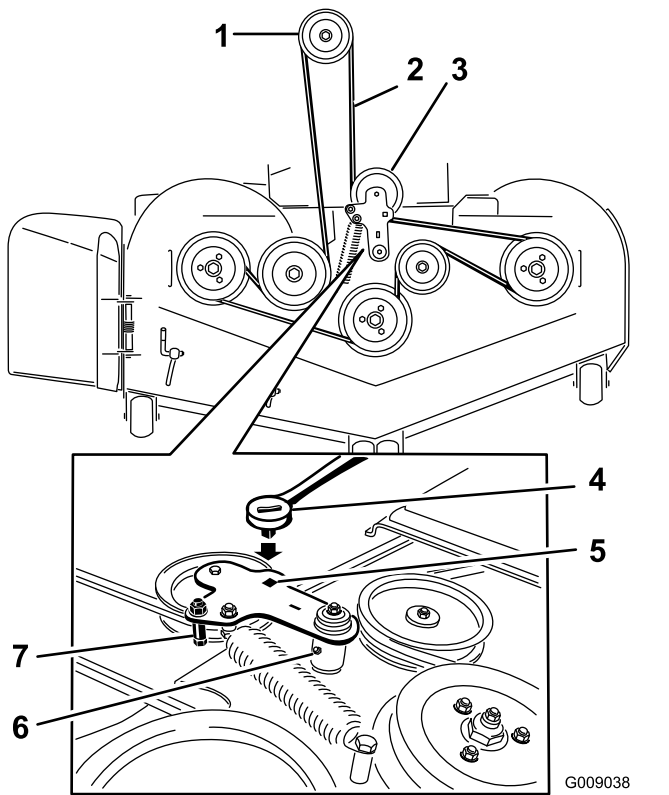

Figure 76
5. Use a ratchet in the square hole in the idler arm to remove tension on the idler spring (Figure 76).
7. Remove the belt guide on the spring-loaded idler arm shown in Figure 76.
9. Install the new belt around the mower pulleys and the clutch pulley under the engine (Figure 76).
10. Install the belt guide on the idler arm (Figure 76).
11. Using the ratchet in the square hole, install the idler spring (Figure 76).